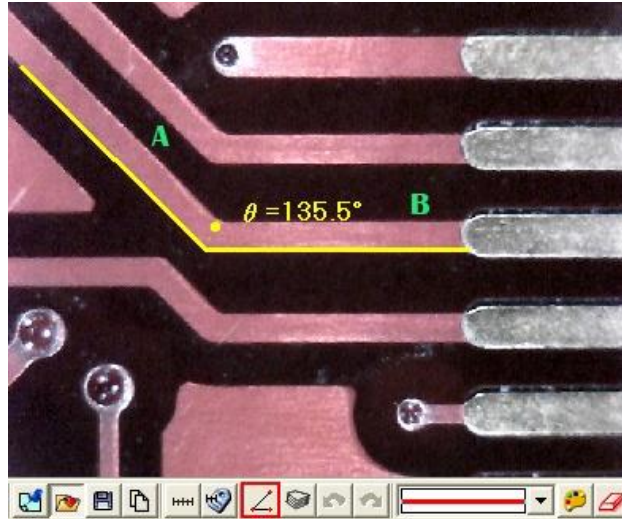

Fig 5-68 3 Points Angle
- (7) 3 Points Angle: Measure the angle on the object and use . It can see an angle on the object, draw a line and stop at the corner of angle, and then draw the other line from the angle; the angle can be automatically calculated. See Fig 5-68, a dot shows the measured angle, it is 135.5° .